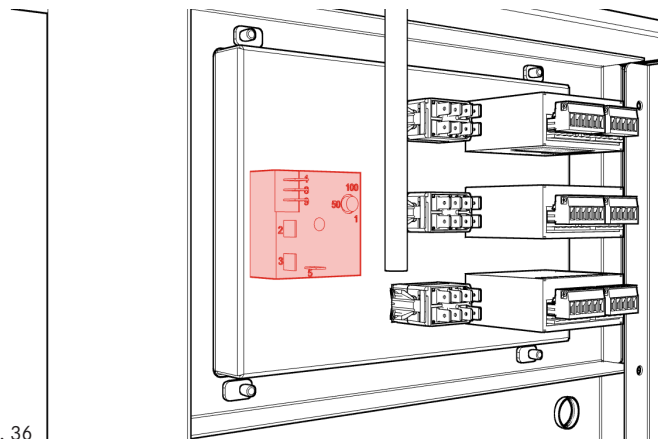

Fig. 36
2. Locate timer on back of controller frame, identifying timer delay control knob on timer (Fig. 36).